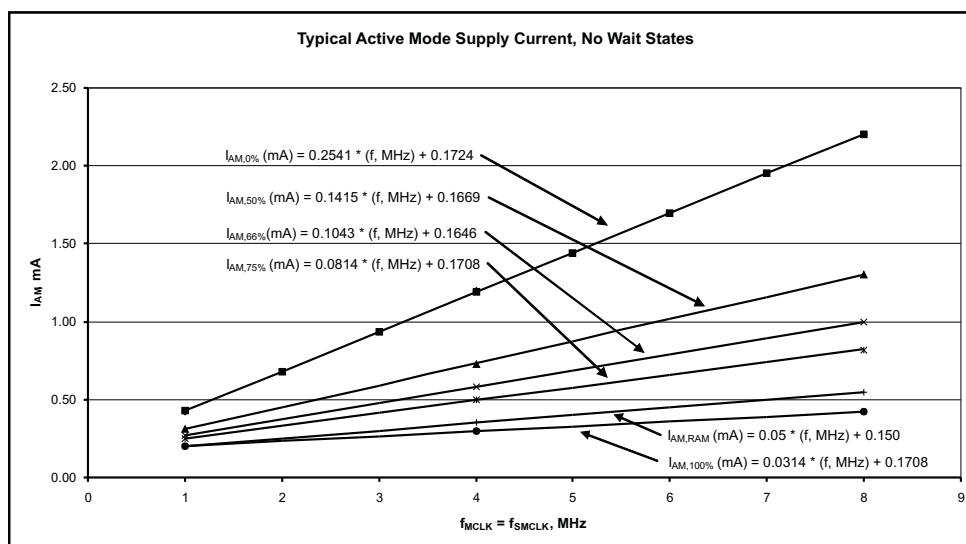

Figure 4-1. Typical Active Mode Supply Currents, No Wait States
- (7) See Figure 4-1 for typical curves. Each characteristic equation shown in the graph is computed using the least squares method for best linear fit using the typical data shown in Section 4.4.